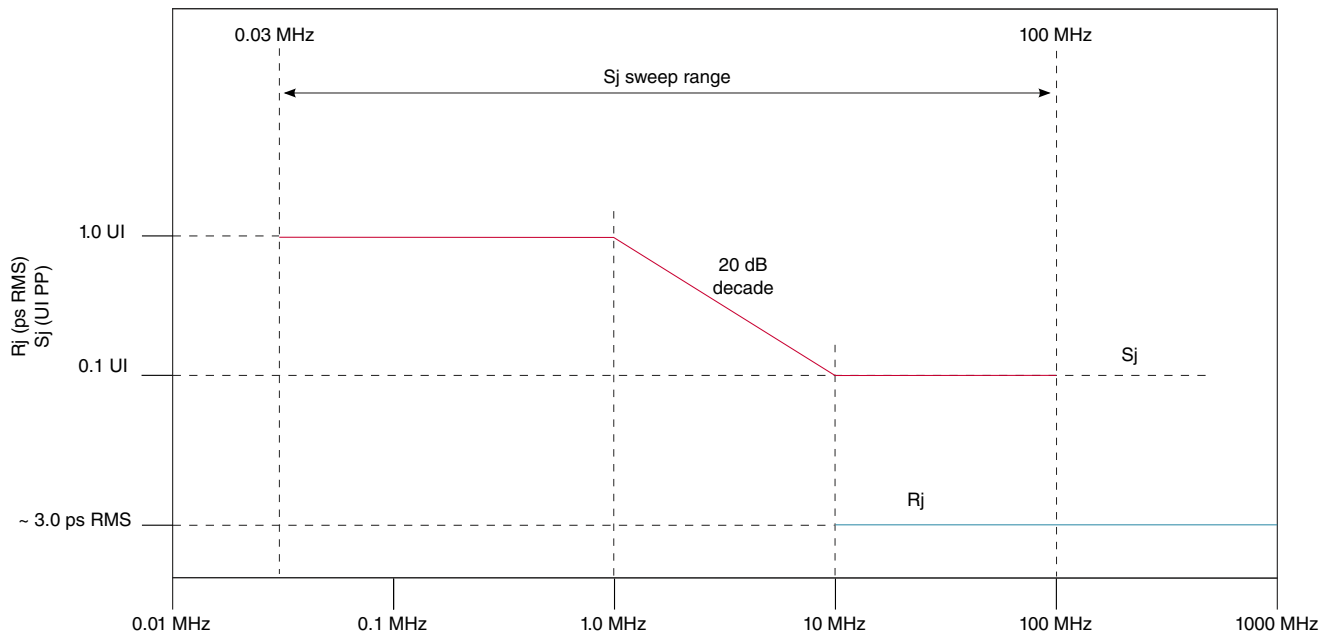

Figure 37. Swept sinusoidal jitter mask
3. The sinusoidal jitter in the total jitter tolerance may have any amplitude and frequency as shown in Figure 37.
4. Random jitter (Rj) is applied over the following range: The low frequency limit may be between 1.5 and 10 MHz, and the upper limit is 1.0 GHz. See Figure 37 for details. Rj may be adjusted to meet the 0.3 UI value for $T_{RX-SV-8G}$.